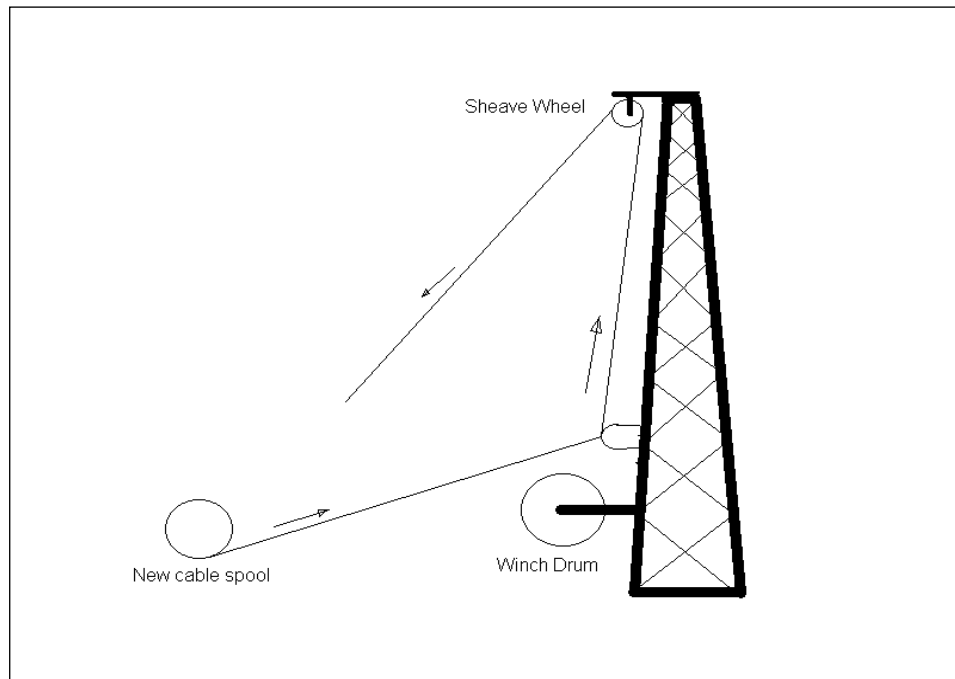

Figure 8 New launch cable installation
A. Refer to Figure 8 as shown below for the following procedure.